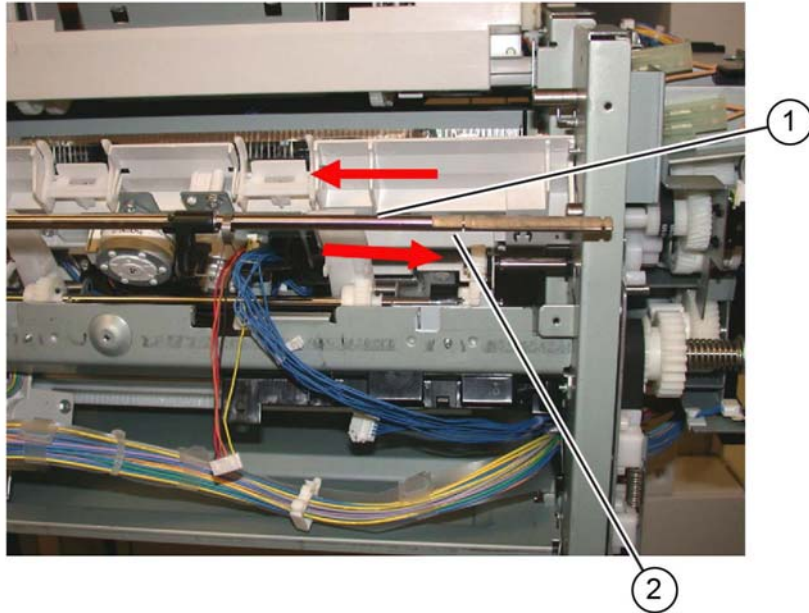

Figure 11 Set clamp shaft installation
3. Install the set clamp shaft front end into the front frame, **Figure 11**:
- a. Insert the front end of the shaft into the front frame (1).
- b. Slide the shaft toward the front until the rear end of the shaft can be inserted into the rear frame (2).